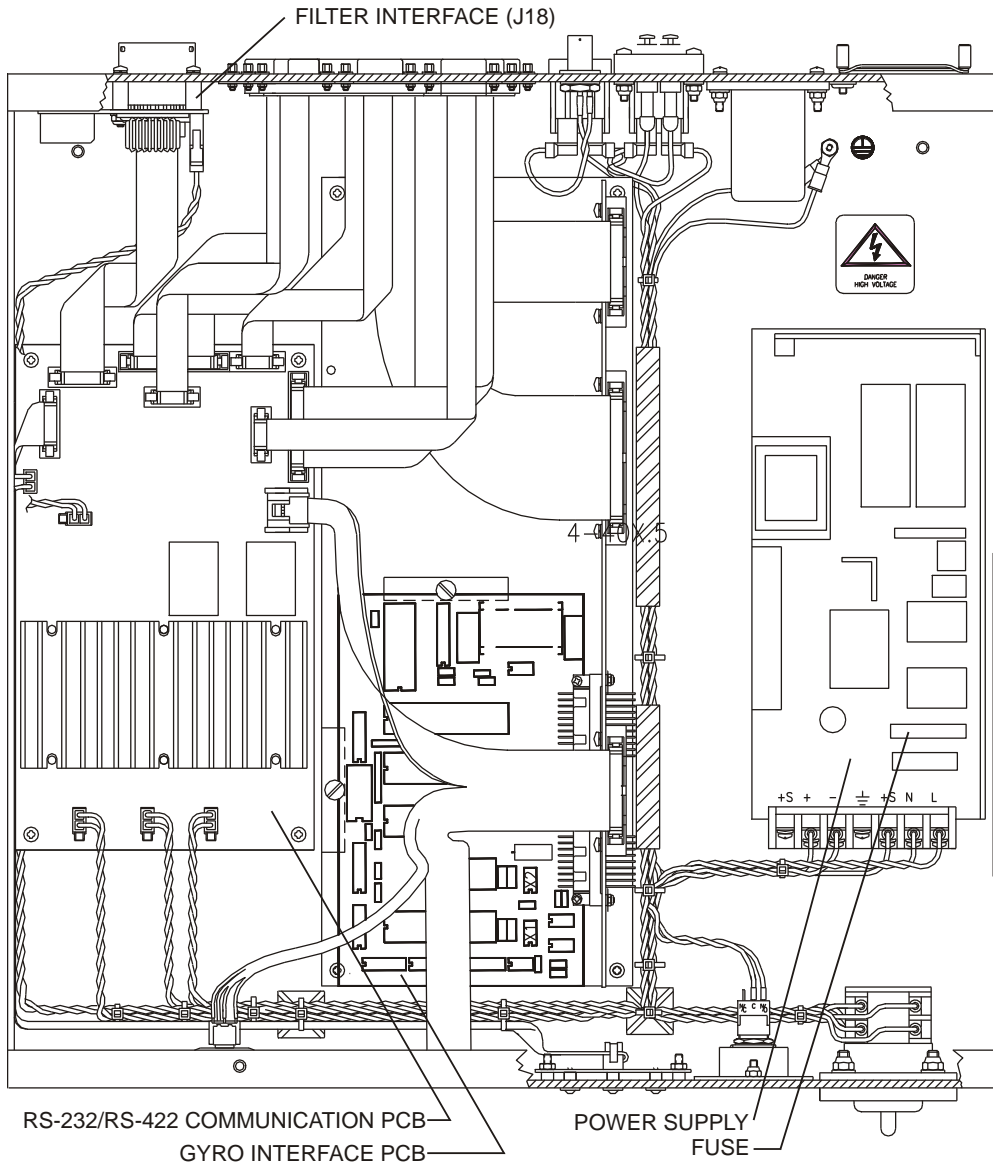

Figure 4. Deck Box (Top View)
- c. Locate the Filter Interface board (see Figure 4). Locate connector J18 and disconnect the twisted black and white cable plugged into this connector. The power from the deck box to the ADCP has now been disabled. Only the batteries are powering the ADCP.